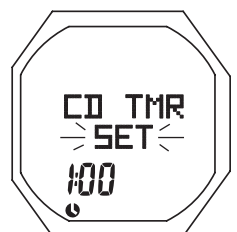

Fig. 12 - CDT STATUS (to access Set, or set/ready)
- >> If SET is selected (Fig. 12), Set CDT is accessed.
- S (< 2 sec) to save the CDT Set Point and revert to the CDT Status screen with SET flashing (similar to Fig. 12).